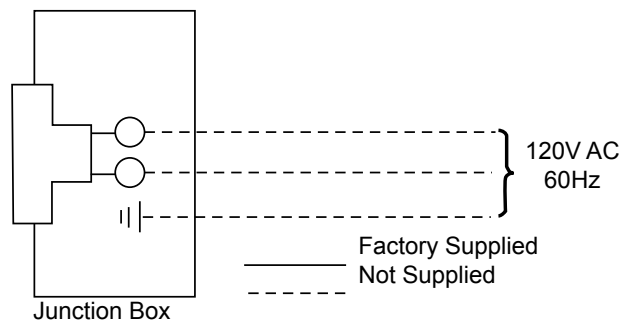

Figure 23. Junction Box Wiring Diagram
3. The junction box cover has a factory installed “romex” style strain relief connector. After connecting the wires, route the wire leads through this connector. Refer to the wiring diagram in Figure 23.